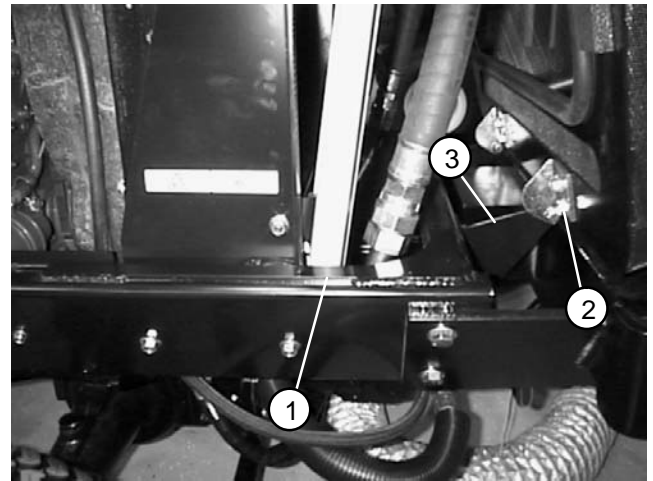

Figure 6
- A. Place shim that is 3/8" to 7/16" (9.5 to 11.1 mm) thick on top of frame (both RH and LH sides) near the sides of oil cooler (Figs. 6 and 7).